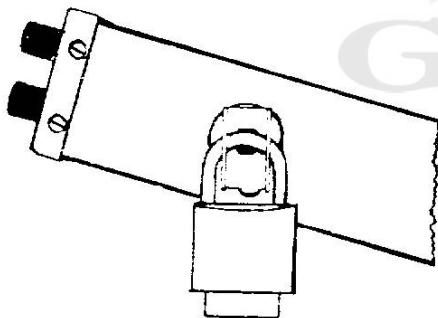

Figure 2-3. Lock Placement
4. Attach a padlock through holes in sides of mounting lock, as shown in Figure 2-3; then latch padlock to prevent removal of unit from mounting bracket.